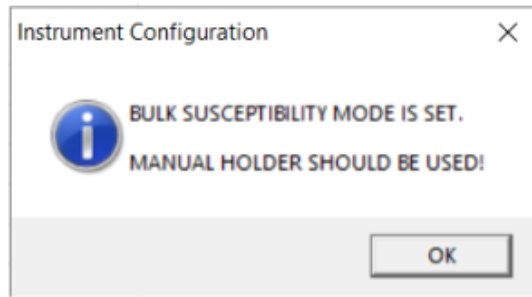

Figure 33: Warning indicating that the manual holder should be used for bulk susceptibility measurements.
5. A warning that a manual holder should be used for bulk only measurements will appear on the screen (Figure 33). Select **OK**.